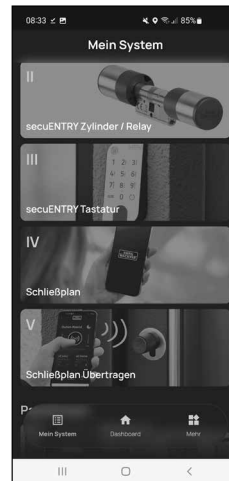

Fig. 4
- 6 Return to the "My System" menu (Fig. 4).
- 1 Tap the menu item "V - Transfer locking plan" in the "My System" menu (Fig. 4).